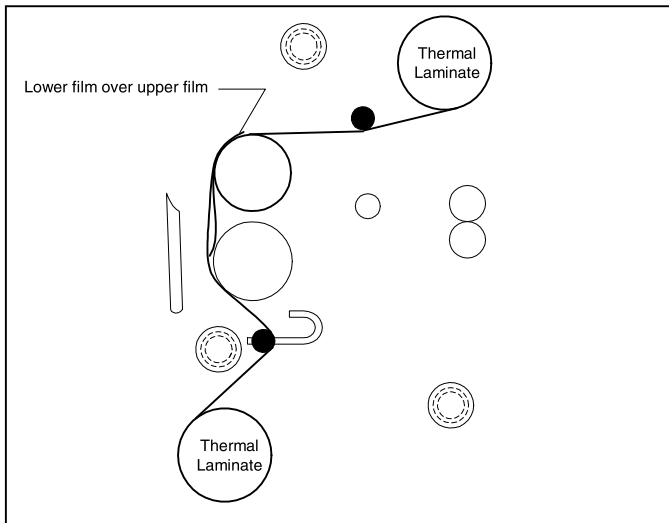

Fig. 26
6. Pull the lower film behind the lower idler bar and up towards the film draped over the top heat roller (Figure 26).